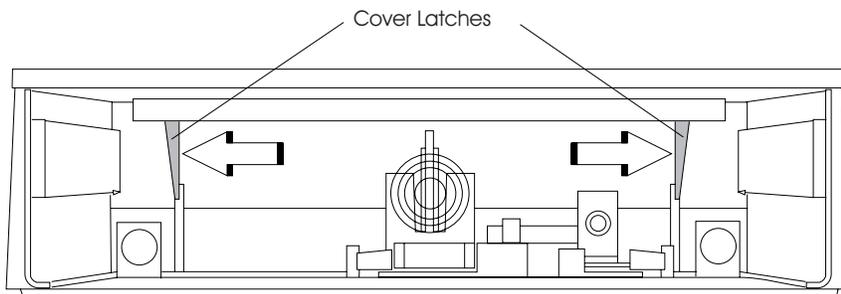

Figure 2-7. Removing and Replacing the Top Cover
- 6 To separate the top cover from the base, reach in from the front and push the cover latches outward while pushing them to the rear. The cover slides off to the rear. See Figure 2-7.